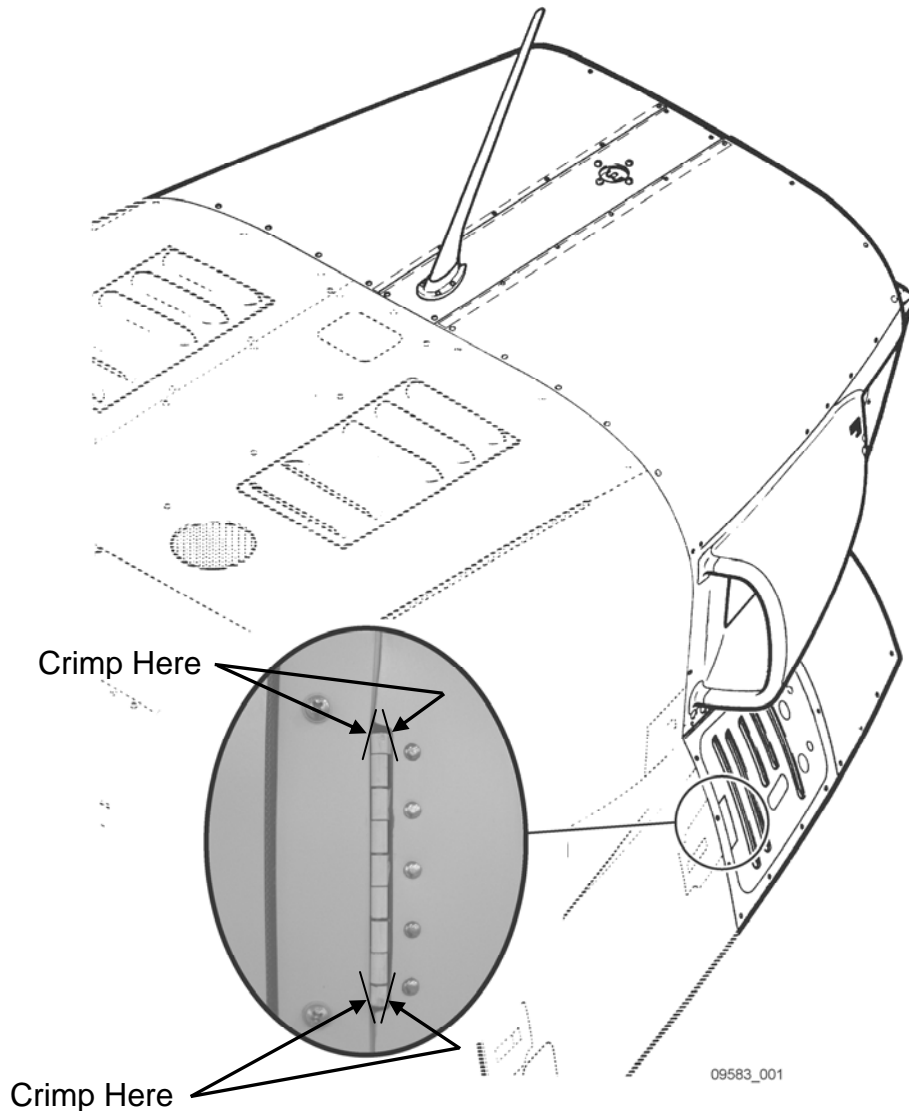

Figure 1
2. Inspect hinge assy on both sides of the aircraft for crimping of the end loop(s). Correct crimping of the hinge is confirmed by the presence of two opposed flats on the loop at each end to prevent the pin(s) from sliding out. See Figure 1.
- d. Using suitable pliers, crimp the loops at both ends of the hinge pin, just enough to restrain its movement. See Figure 1. Check the hinge for freedom of movement.
- c. Using suitable pliers (or small hammer and anvil), crimp the loops at both ends of the hinge pins, just enough to restrain their movement. See Figure 1. Check the hinge for freedom of movement.